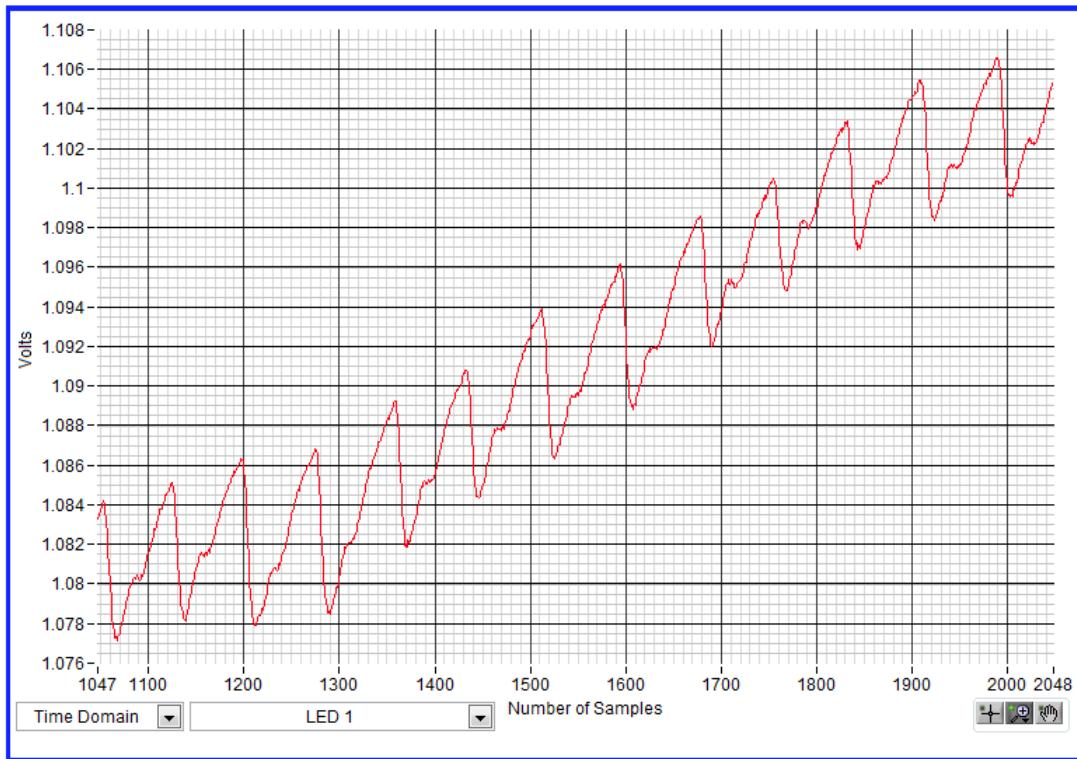

Figure 8. Sample Waveform of Green LED Captured on the Wrist With NJRC NJL5513R
- Click the **Capture** button to begin capturing data. **Figure 8** shows a sample waveform: